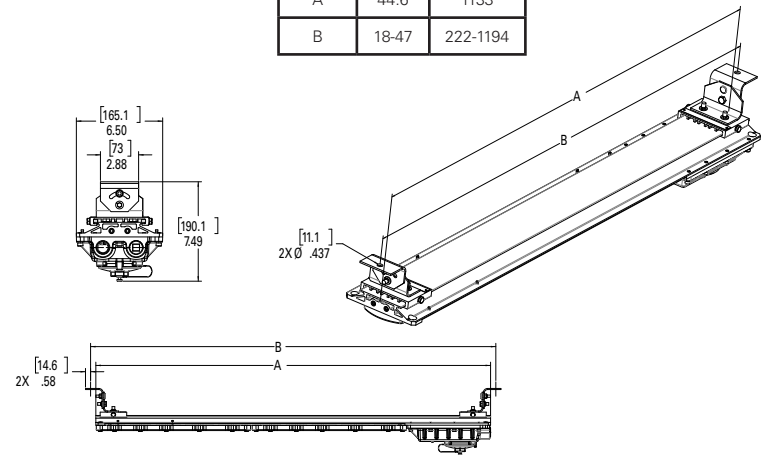

Figure 3. ZP1050MTK Swivel Mount Installation
2. Mark and drill holes for fastening swivel brackets. Use two (2) 3/8" bolts (not supplied) at center to center measurements. For swivel brackets, holes may be spaced as required. It is required to keep them at least 18" (457mm) apart (see Figure 3) (see table for full mounting range).
3. Luminaire is now ready for mounting. It is strongly suggested to use two (2) qualified tradespeople to proceed with the final mounting of the luminaire. This is recommended to avoid any personal injury or damage to the luminaire.